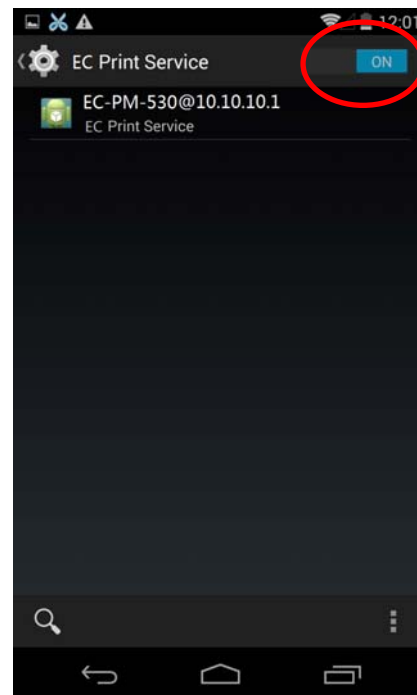

Figure 24
3.5 After turning on the “EC Print Service”, it will search automatically and show the printer if found, as shown in Figure 24.